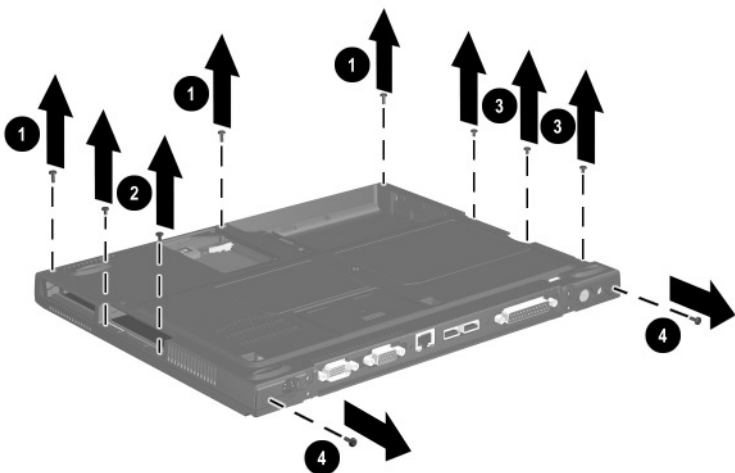

Figure 5-21. Removing the Top Cover Screws
- ❑ Three TM2.5 × 7.0 screws from the front edge of the base enclosure ❶ (Figure 5-21)
- ❑ Two TM2.5 × 5.0 screws from the hard drive bay ❷
- ❑ Two TM2.5 × 5.0 screws from the Media Bay ❸
- ❑ **Evo Notebook N600c models**—Two TM2.5 × 5.0 screws from the rear panel ❹, or
- ❑ **Evo Notebook N610c models**—Two TM2.5 × 7.0 screws from the rear panel ❹